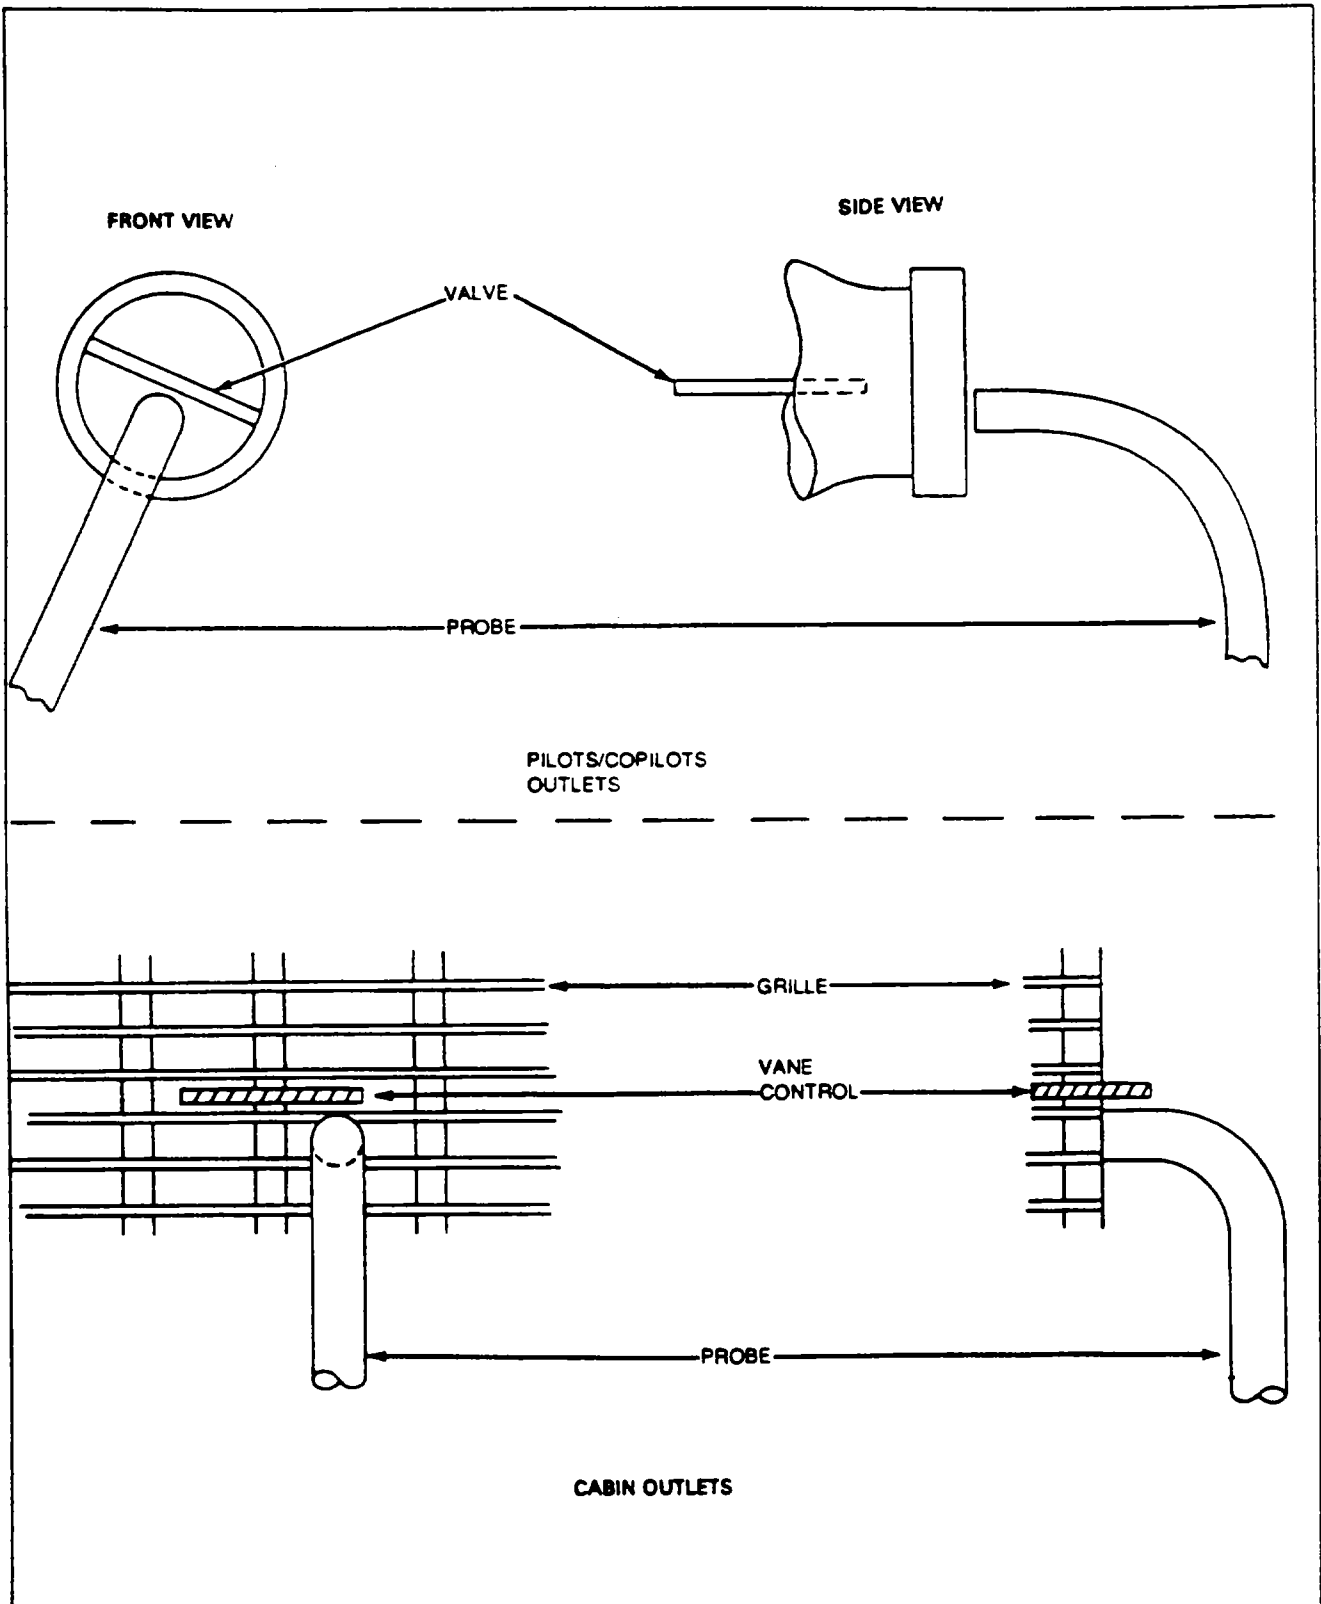

Figure 21-34. Positioning of Airflow Probe to Outlets
3. When checking air flows, hold the probe from the flow meter perpendicular to and in the center of the outlet. Refer to Figure 21-34.